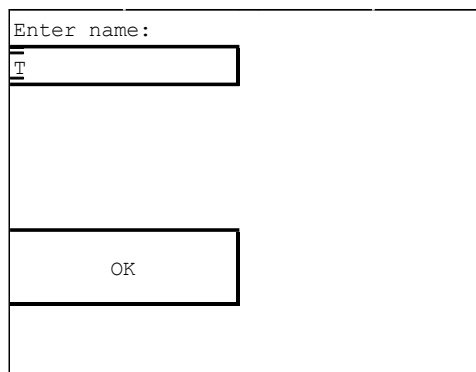

Fig.19
2. Turn the encoder knob to select the desired alphanumeric character (turning the encoder knob, you can select the entire set of alphanumeric characters), see the screen in Figure 19;